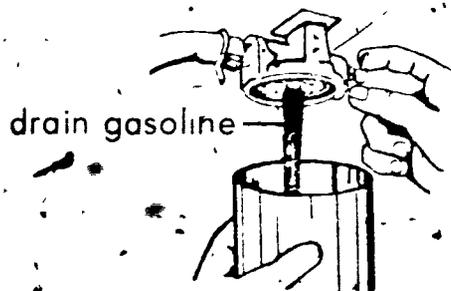

FIGURE 2
- I. Open fuel valve and drain out approximately a cup of fuel (Figure 2)